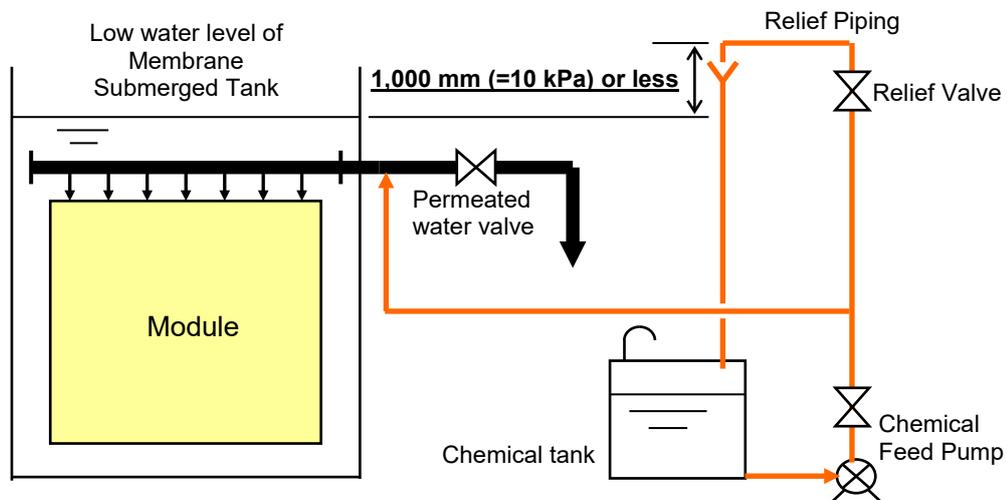

Fig.VIII-3 Chemical Cleaning with the Chemical Feed Pump and Relief Valve
- c. Chemical cleaning with the chemical feed pump and relief valve (Fig.VIII-3)